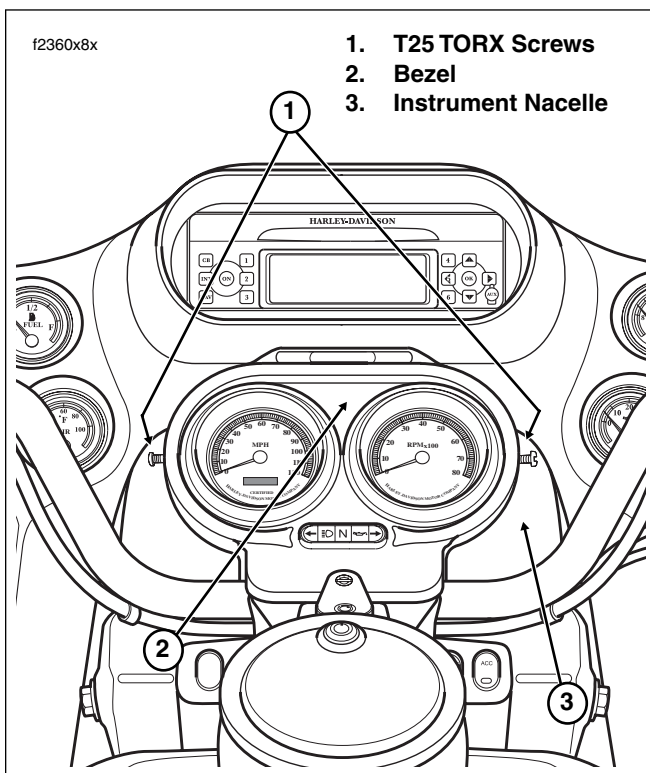

Figure 2-176. Remove Instrument Bezel Screws
1. Remove T25 TORX screw on left and right side of instrument bezel. See Figure 2-176.
5. Install T25 TORX screw on each side of bezel. Alternately tighten screws to 25-35 **in-lbs** (2.8-4.0 Nm). See Figure 2-176.